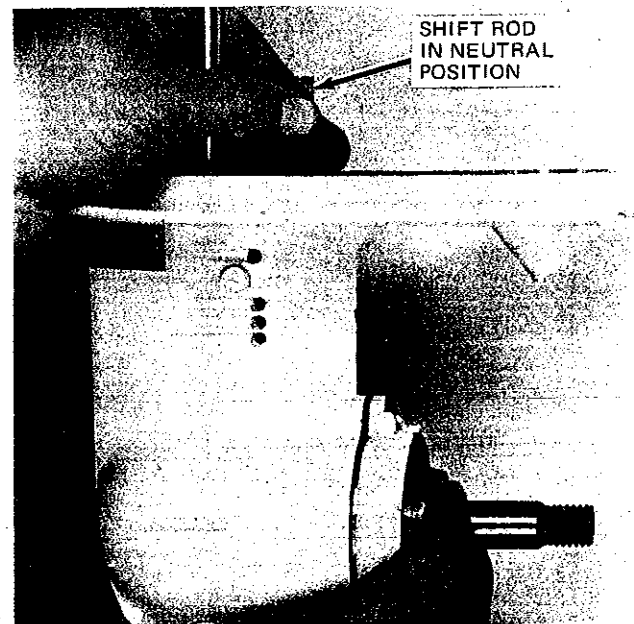

Figure 32. Push shift rod down and move in cover.
- BB. Push down the shift rod to the neutral position and slide the cover assembly in the rest of the way (Figure 32).